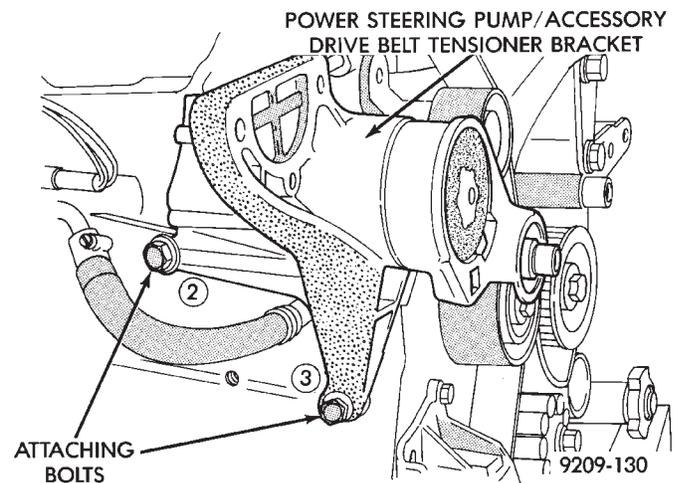

Fig. 13 Power Steering Pump/Accessory Drive Belt Tensioner Bracket Attaching Bolts
(6) Remove Bracket bolts #2 and #3 from rear of engine. Remove Bracket (Fig. 13).
- (1) Loosely assemble bracket to engine.
- (2) Tighten bolts #2 and #3 to 3.3 N·m (30 in. lbs.) (Fig. 13).
- (4) Tighten bolts #2 and #3 to 54 N·m (40 ft. lbs.) (Fig. 13).
- (5) Camshaft and Crankshaft timing should be checked at this time.